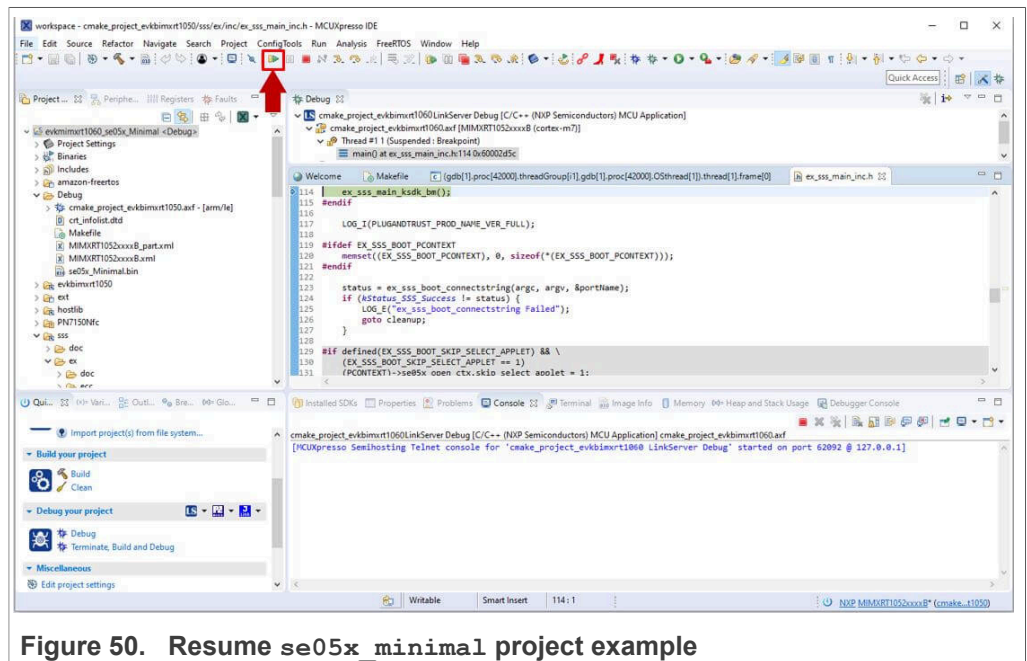

Figure 50. Resume se05x_minimal project example
- When it executes, it will automatically stop in a breakpoint. Click on **Resume** to allow the software to continue its execution as shown in Figure 50.